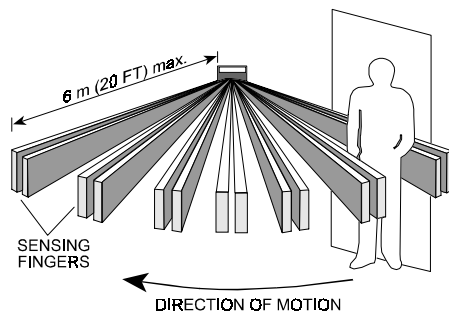

Figure 1. Positioning the MINI-ALERT
- The field of view is approximately 90°, located 45° on either side of the front of the unit, approximately parallel to the floor, at the height of the unit (see Figure 1). The maximum range is 6 m (20 ft).
- Position the MINI-ALERT so that an approaching person will have to cross the sensing fingers of its field of view as in Figure 1. The unit is not sensitive to motion directly towards or away from the unit, because this kind of motion does not cross the sensing fingers within its field of view.